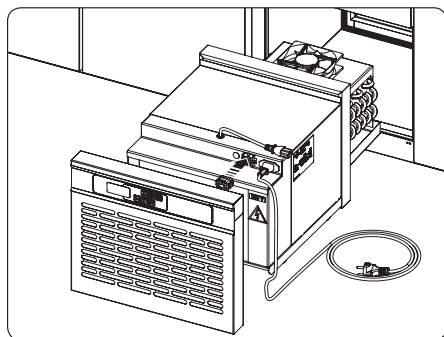

Fig. 4. Pin-and-socket connector
4. Disconnect pin-and-socket connector from counter controller which is placed on chamber's cover (fig. 4)